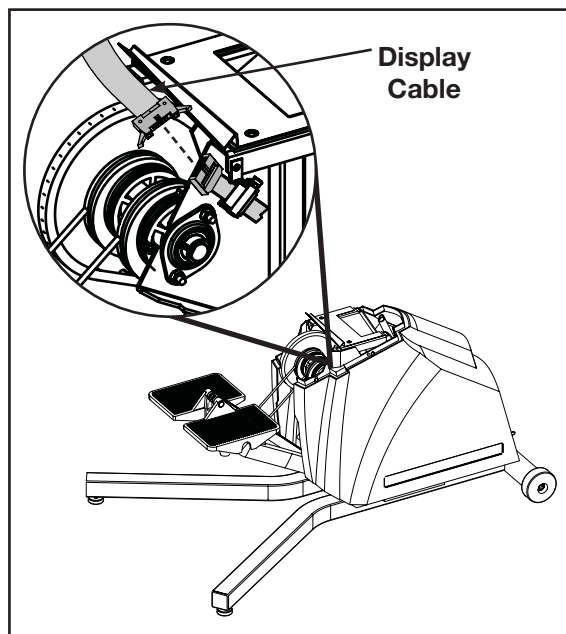

Figure 4
- B. Attach the display cable from the bottom of the display upright (#2) to the end of the display cable on the base frame (#1). Make sure the cable connector latches snap into place. See Figure 4.